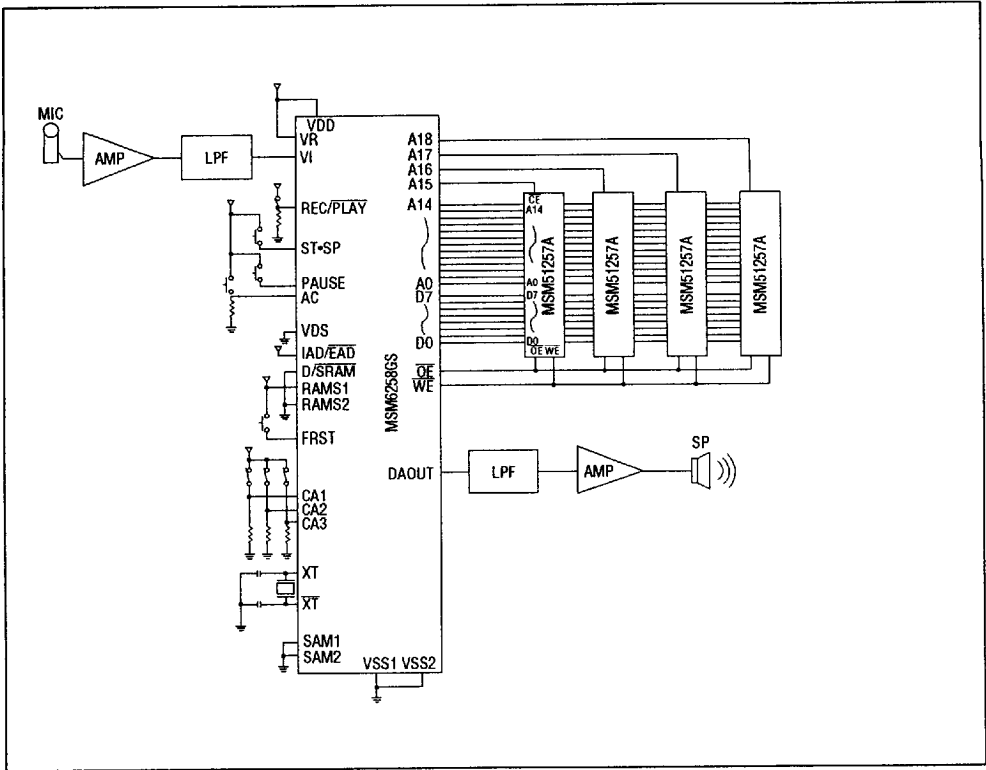

Figure 24 Application Note for 256K SRAM
- Figure 24 shows an example of interface with 256K SRAM.